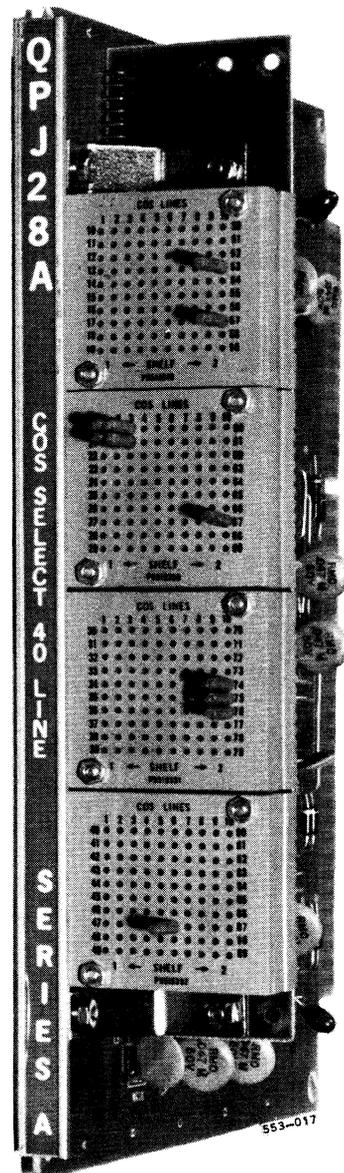

Fig. 8 – A Typical Class of Service Circuit Pack
3.31 The plastic selector blocks mount on printed circuit assemblies in the control and option shelves. A typical COS circuit pack is shown in Fig. 8. Each horizontal row of pin locations represents all the options provided for the station line or trunk assigned to that row on the selector block. The ten vertical columns on the face of the block correspond to the COS code of that block.